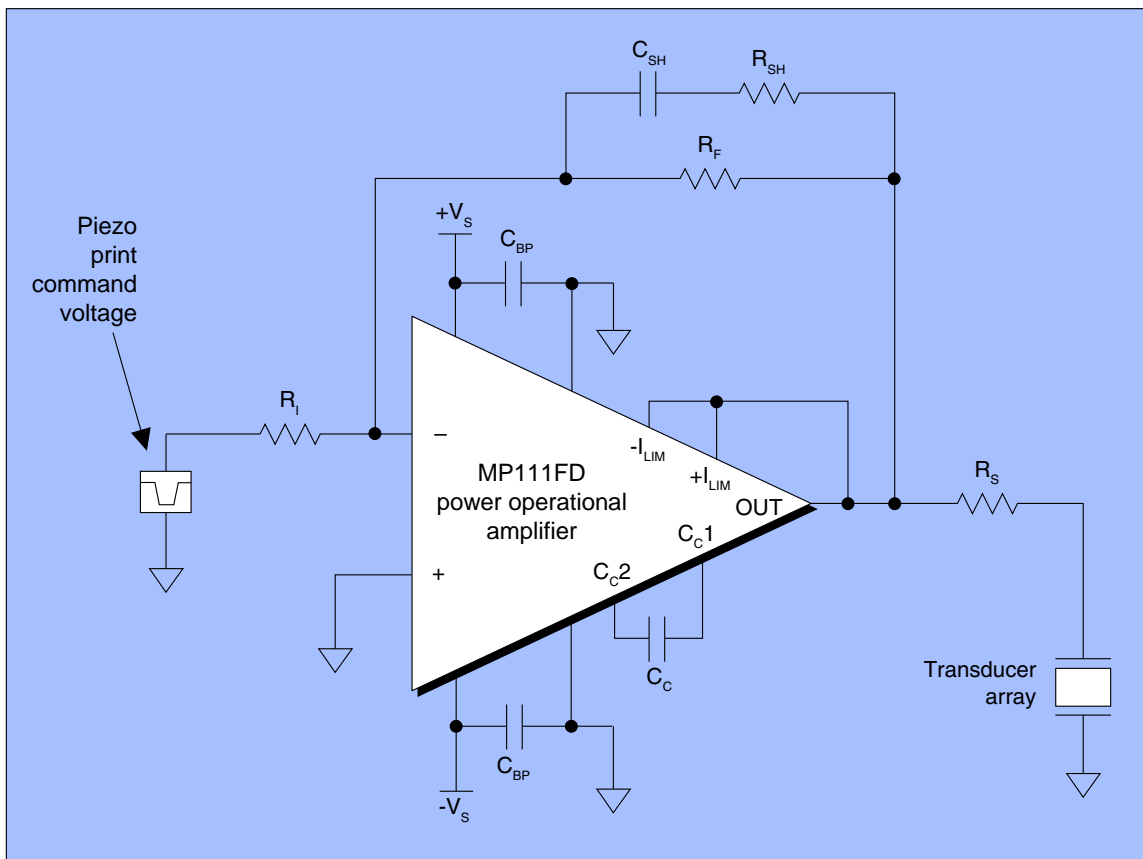

Figure 10. A simplified diagram using a power amplifier and companion passive components.
- Determining design parameters - The Apex Precision Power MP111FD power operational amplifier is particularly well suited for driving piezoelectric transducer arrays. It is a 100 volt device with a 500 KHz power bandwidth and a 50 amp pulse capability. Shown in Figure 10 is a simplified drawing of the MP111FD power operational amplifier in an inkjet transducer application with the companion passive components identified.
- Enhancing dynamic response – This is achieved by connecting a series network comprising a 10pf capacitor  $C_{SH}$  and a 1kilohm  $R_{SH}$  in shunt with resistor  $R_f$ , as shown in Figure 10. This will improve the dynamic response of the power amplifier. Adjust these values slightly to optimize the response.